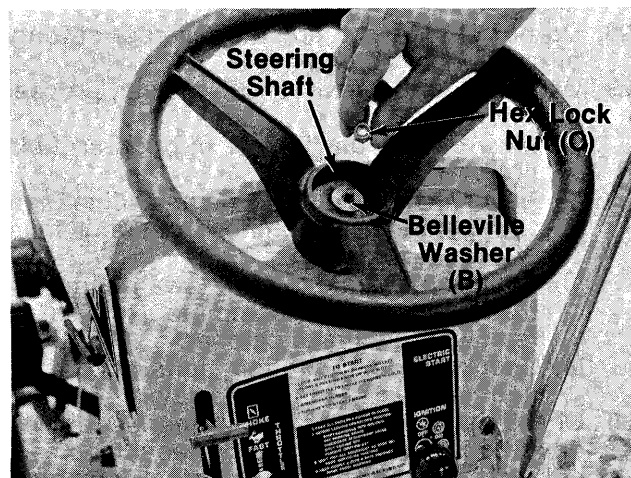

FIGURE 3.
- 2. Place steering wheel (M) over steering shaft.
- 3. Secure with belleville washer (B) and hex lock nut (C). See figure 3.